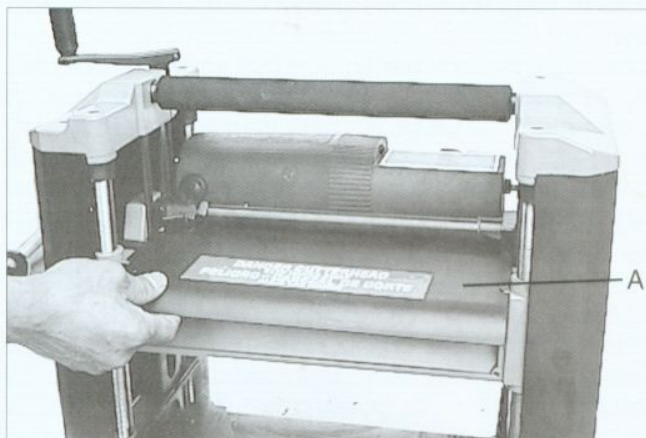

Fig.23
3. Remove chip deflector (A) Fig.23
9. Replace chip deflector (A) Fig.23.
10. Replace chip deflector (A) Fig. 23